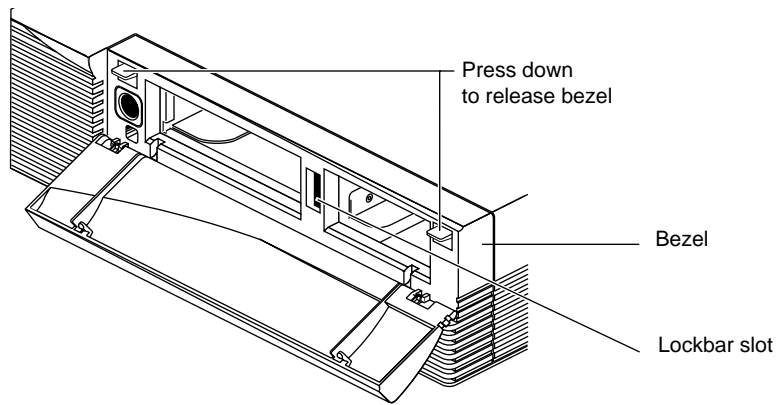

Figure 6-1 Releasing the Bezel
1. Press down on the tabs on each side of the bezel, as shown in Figure 6-1.